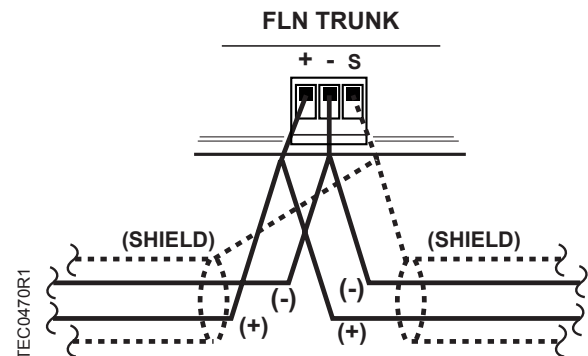

Figure 2. FLN Wiring.
4. Connect the FLN (Figure 2).